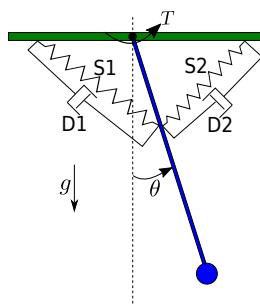

Figure 2: Pendulum model with two springs  $S_1$  and  $S_2$  and two dampers  $b_1$  and  $b_2$
**Important note:** Both exercise use a generic class that can handle both a pair of spring damp muscles, or a single spring damp muscle sketched in Figure 2. Each muscle pair contains spring constants and resting angles, and damping coefficients. Simply set all the values of these parameters equal for the two pairs to study the behavior of a single spring-damper instead of a pair (in Exercise 1). Have a look at the specification of parameters of the pendulum system in the class `PendulumParameters` in `system_parameters.py`.